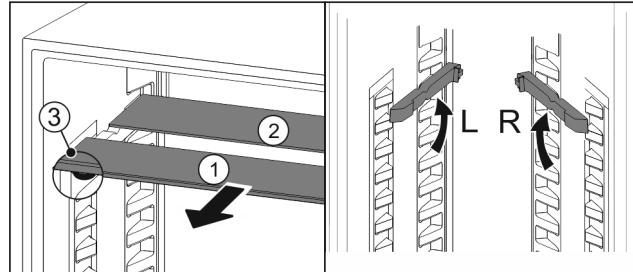

Fig. 92
- Pull the glass panels out Fig. 92 (1) from the front, one at a time.
- The glass panel Fig. 92 (1) with the trim strip is at the front.
- The stops Fig. 92 (3) point downward.